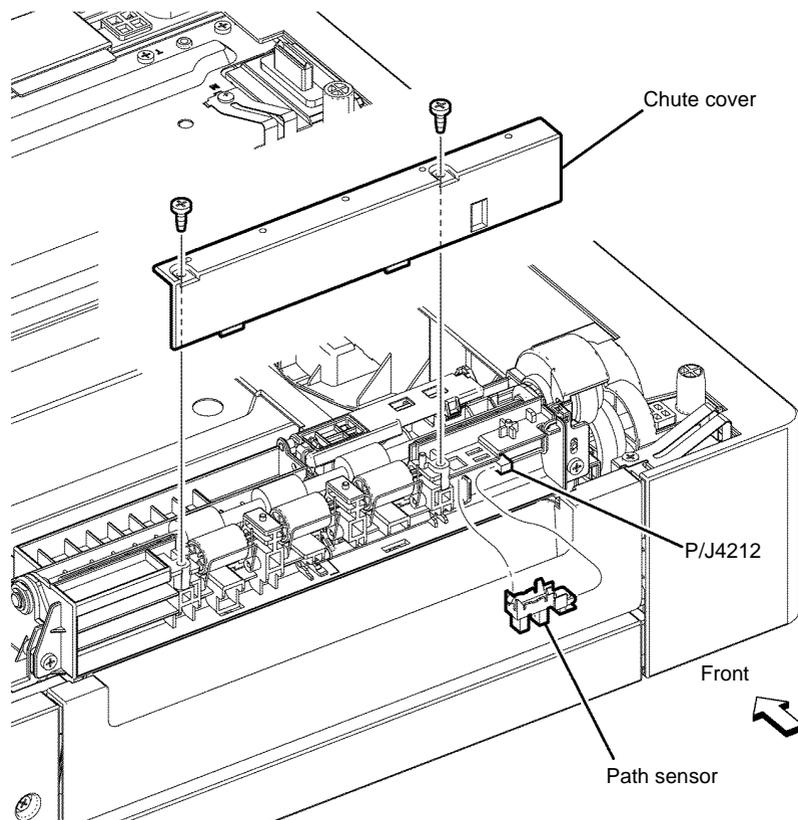

Figure 1 Option feeder path sensor removal
2. Remove two screws (silver, tapping, 8mm), then remove the chute cover, Figure 1.
3. Disconnect P/J4212, then remove the option feeder path sensor, Figure 1.